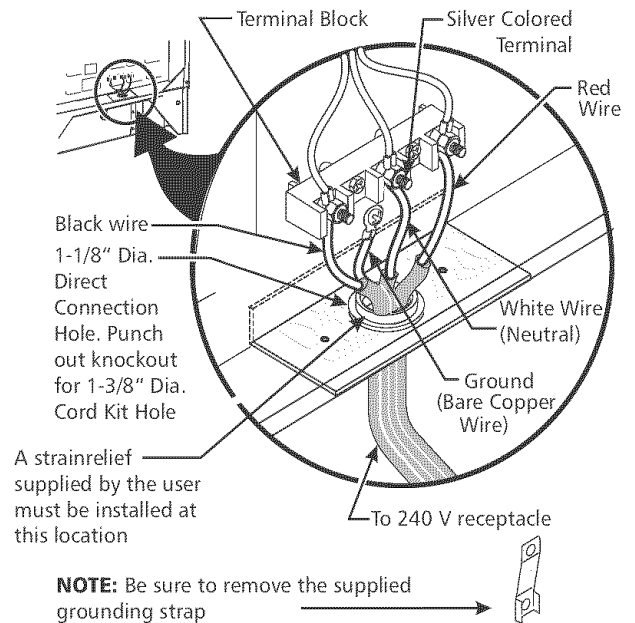

Figure 4
For mobile homes, new installations, recreational vehicles, or areas where local codes do not permit grounding through neutral, a 4 conductor power supply cord kit rated at 125/250 volts minimum, 40 amperes and marked for use with ranges should be used (see Figure 4).
6. Replace the 3 nuts on the terminal block (see Figure 4).
4. Connect the ground wire (green) of the copper power supply cord to the frame of the appliance with the ground screw, using the hole in the frame where the ground strap was removed (see Figure 4).
If the appliance is connected directly to the circuit breaker, fuse box or junction box, use flexible, armored or nonmetallic sheathed copper cable (with grounding wire). Supply a U.L. listed strain-relief at each end of the cable. At the appliance end, the cable goes through the Direct Connection Hole (see Figure 4) on the Cord Mounting Plate. Wire sizes (**copper wire only**) and connections must conform to the rating of the appliance.